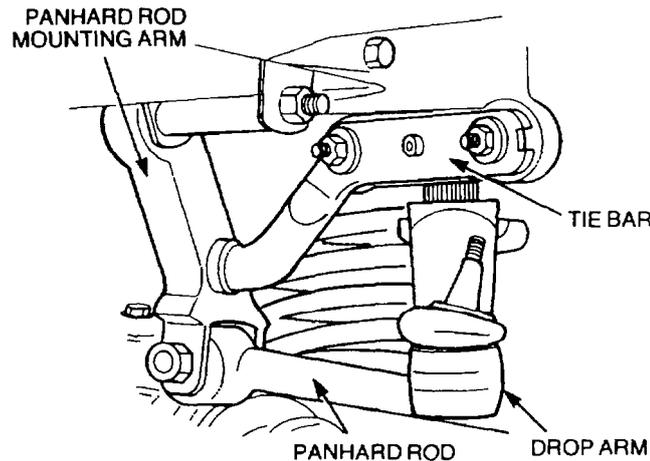

Figure 83 Tie Bar Removal
- i. Remove the locknuts, washers and bolts securing the tie bar to the steering box then swing the tie bar clear of the steering box (Figure 83). Discard the locknuts.